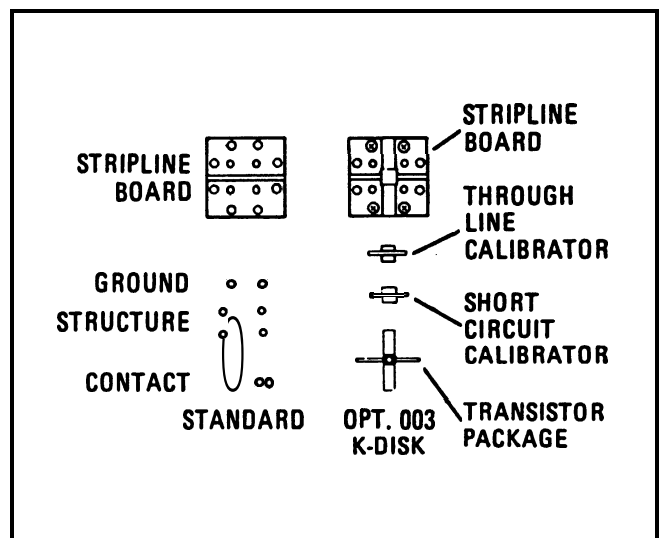

Figure 3. Model 11608A Standard and Option 003
▶ Page 4, Figure 3:
Option 003 includes a stripline board and ground contact installed, and separate throughline and short circuit calibrators. There are no KDisk transistor packages included with Option 003 as Figure 3 suggests.
the basic external requirements of Option 003, but the internal structure has been left blank so that it may be machined and modified by the user to fit a particular device. (See Figure 3.) Two striplines and ground contacts (one stripline is installed) are furnished, together with a piece of plated dielectric which can be machined for making through-line calibrators. Low-temperature solder inserts are also furnished, together with ribbon contact strips for making calibrators. For further information concerning the standard instrument, refer to Appendix I.
Each 11608A Option 003 instrument comes with a stripline board and ground contact installed, and separate through-line and shorting calibrators. As shown in Figure 3, the standard instrument is supplied with un-machined stripline boards and ground contact structures for special applications.